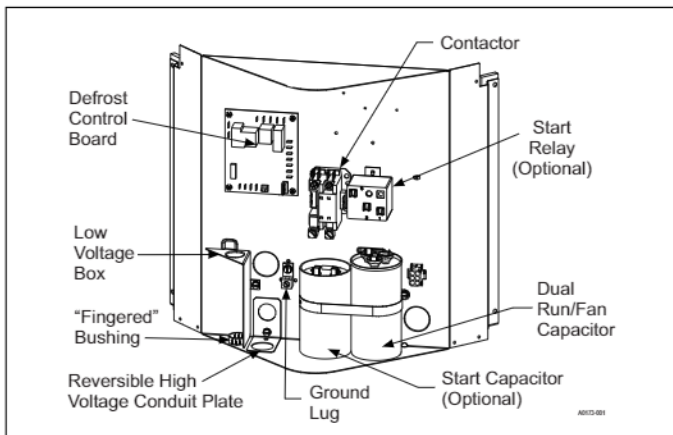

FIGURE 6: Outdoor Unit Control Box - Single Phase
4. Route wires from disconnect through the reversible high voltage conduit plate and then into the unit control box shown in Figures 6 or 7.
1. Route low voltage wiring through the fingered bushing in the low voltage box as shown in Figures 6 or 7. Make low voltage wiring connections inside the low voltage box per Figures 8-9.